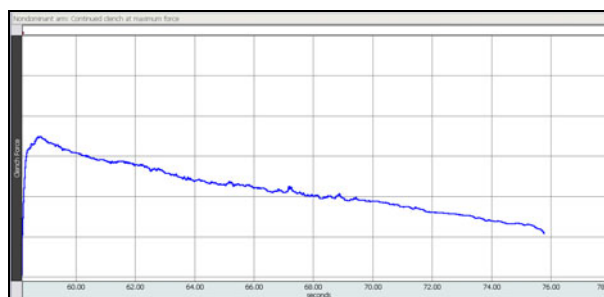

Fig. 2.15 Example Fatigue data
- If **similar** to Fig. 2.15, click **Continue** to proceed to the optional recording section, or click **Stop** to end the recording.